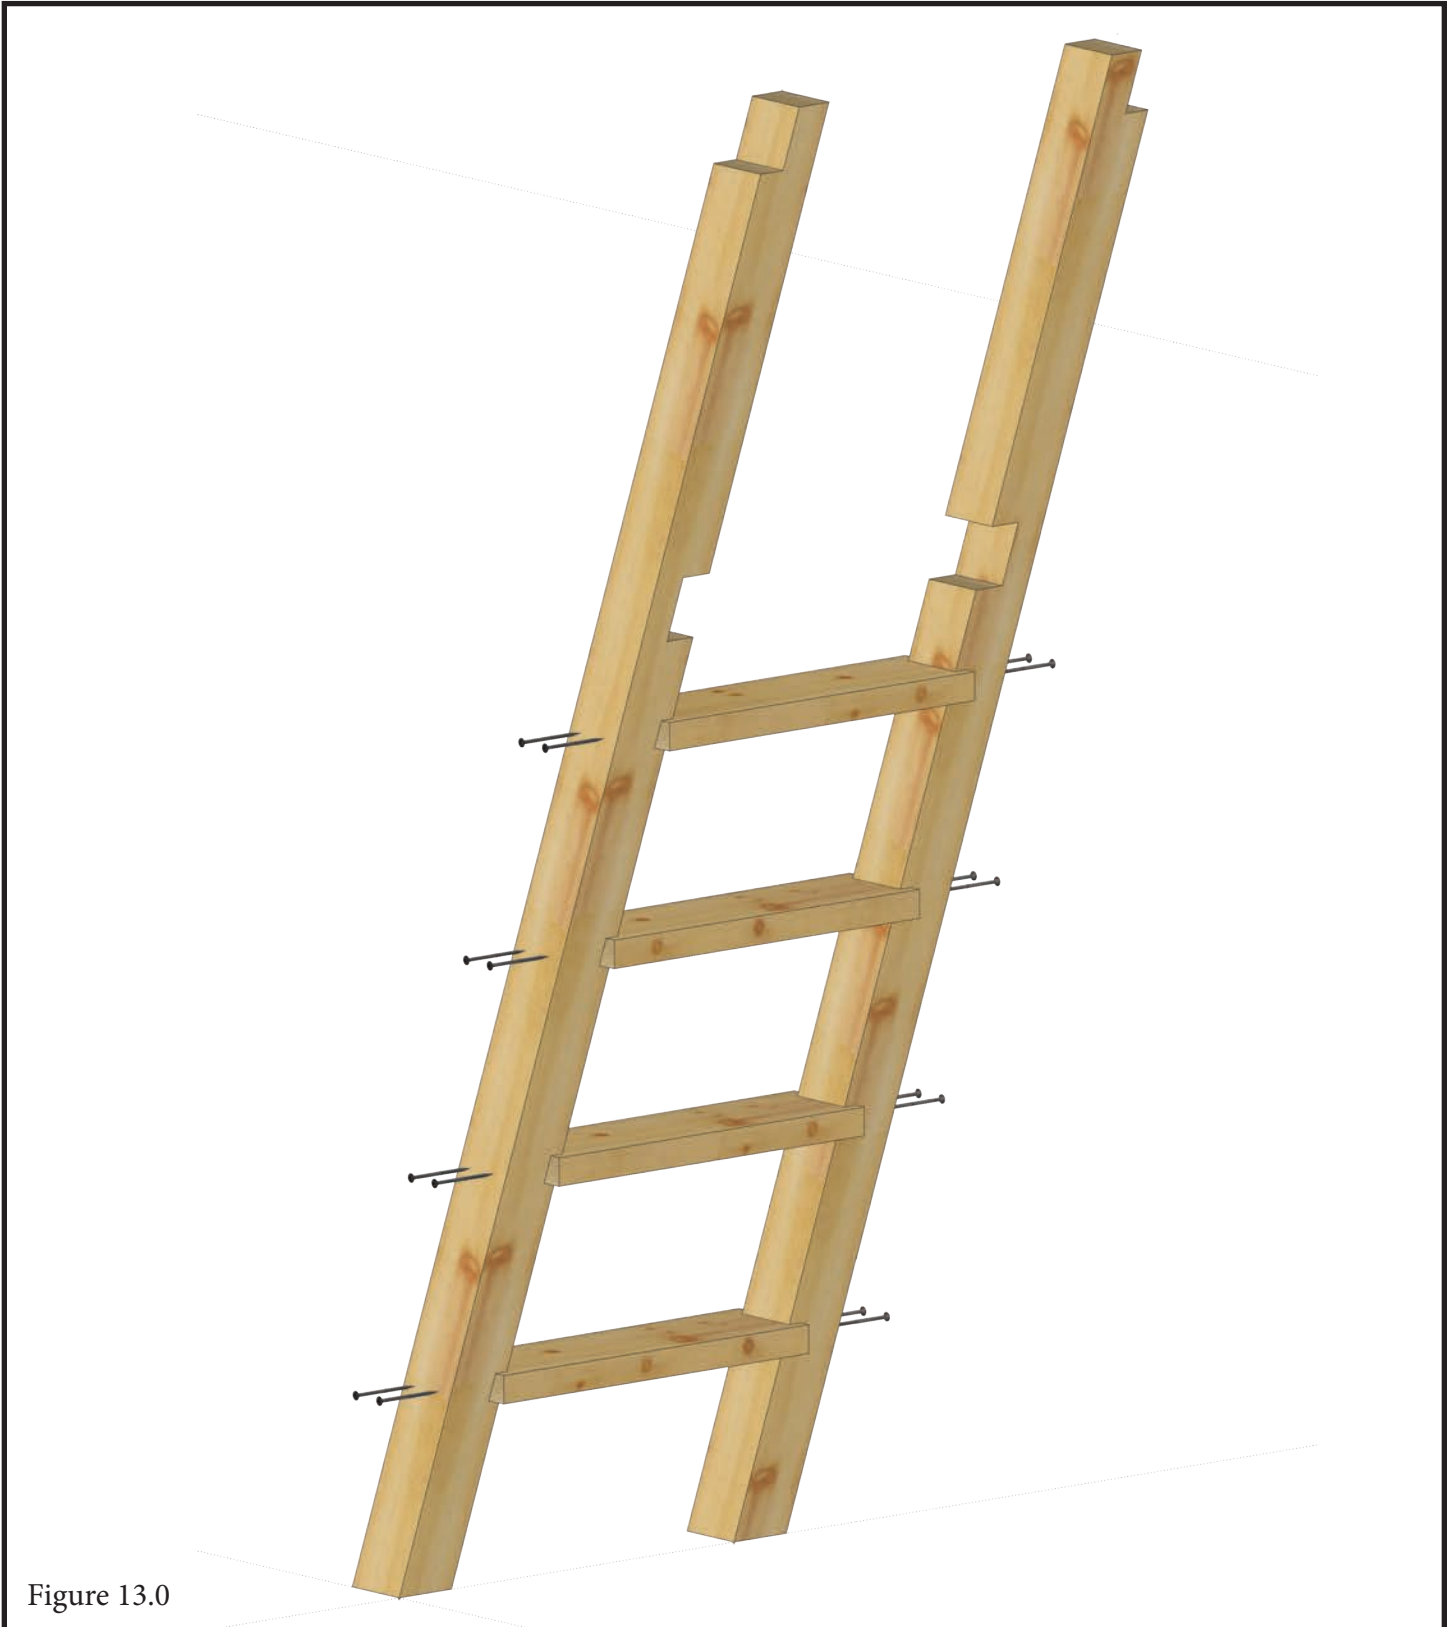

Figure 13.0
13.1 Place Ladder Steps into Dado of GW Ladder Runners as shown in Figure 13.0.